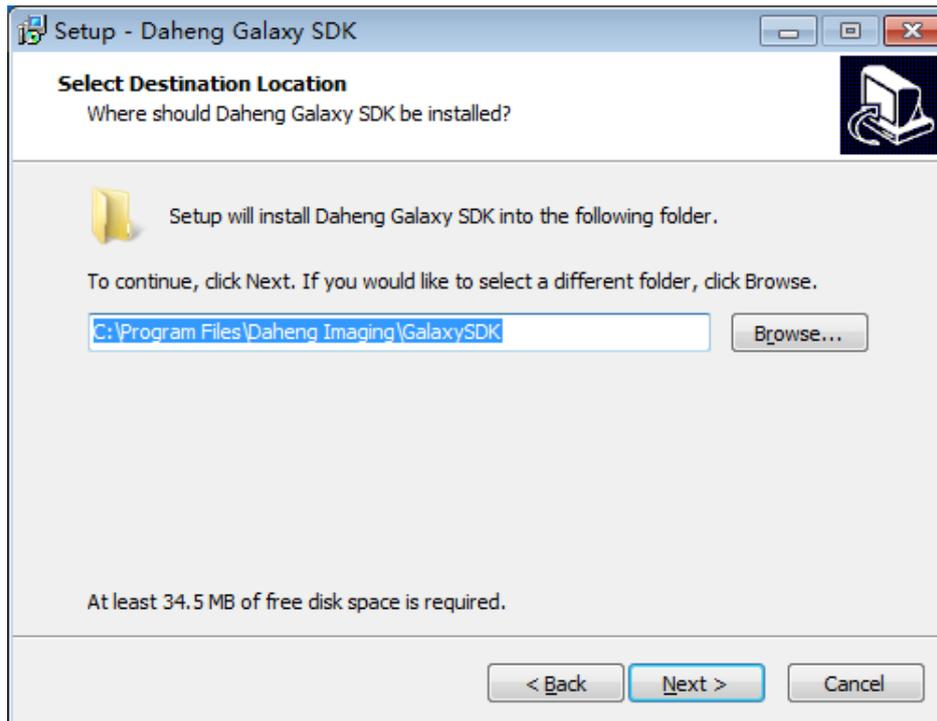

Figure 2.2-11
(14) Click next, continue installation, select camera-driven installation directory, recommend using the default directory. As shown in figure 2.2-11: